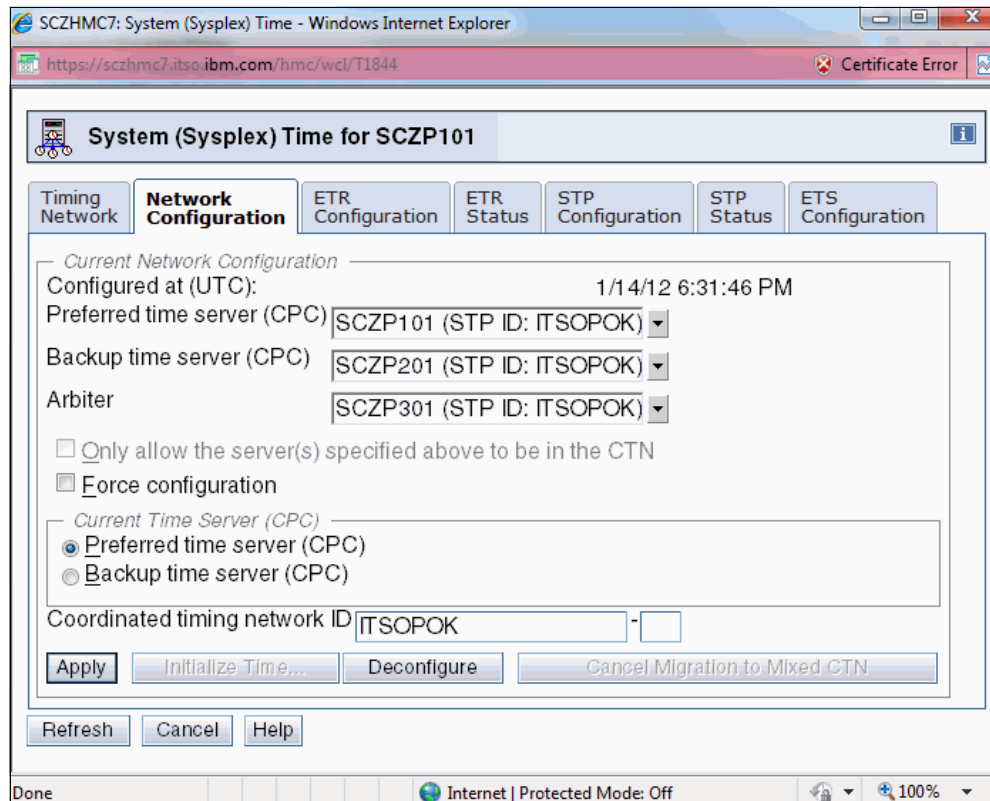

Figure 4-11 STP Network Configuration tab
- Select the Network Configuration tab, as shown in Figure 4-11 on page 98.